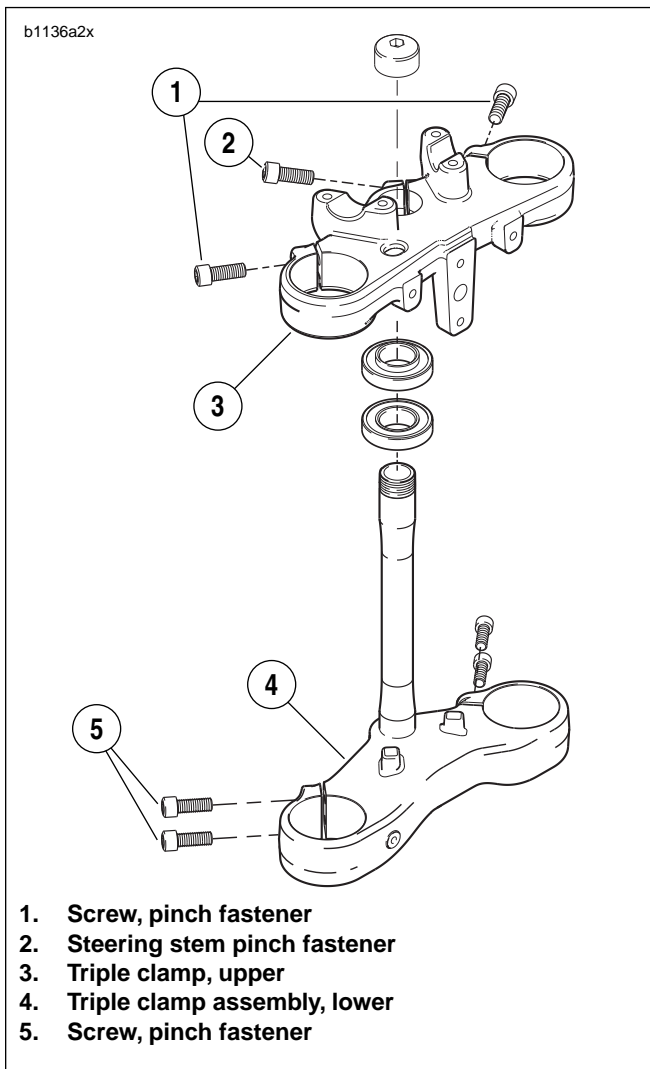

Figure 2-63. Upper and Lower Fork Clamp Assembly
4. See Figure 2-63. Loosen upper and lower fork clamp pinch fasteners (1, 4).
6. See Figure 2-63. Remove fork from lower fork clamp (3).